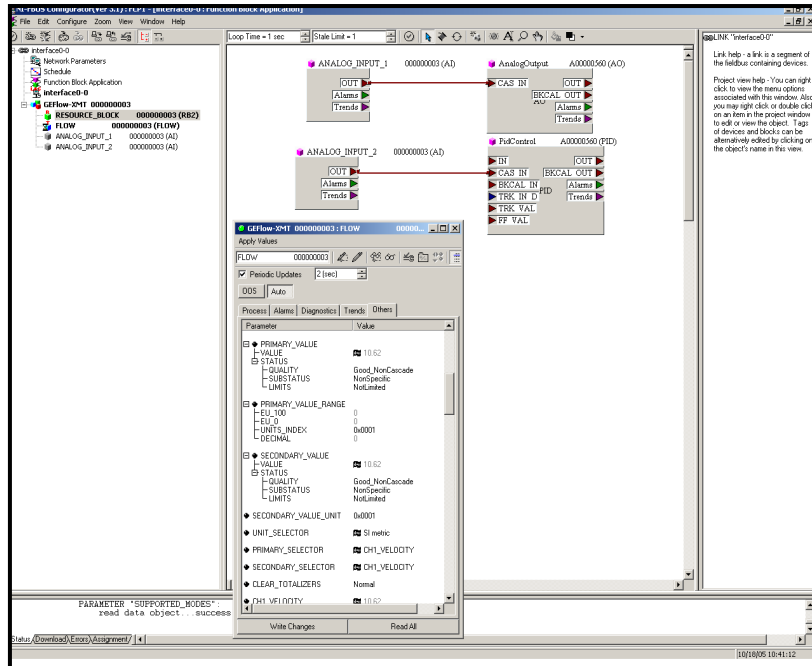

Figure 39: Configuration Utility Setup Example
Figure 39 below shows the Configuration Utility with a flowmeter on the network (Panametrics Flow-XMT).
1. Double click on the AI block for which you wish to set the units (ANALOG_INPUT_1 or ANALOG_INPUT_2 in the tree under GEFlow-XMT; see Figure 39 on page 106).
1. Double click on the FLOW transducer block (in the tree under GEFLOW-XMT; see Figure 39 on page 106).